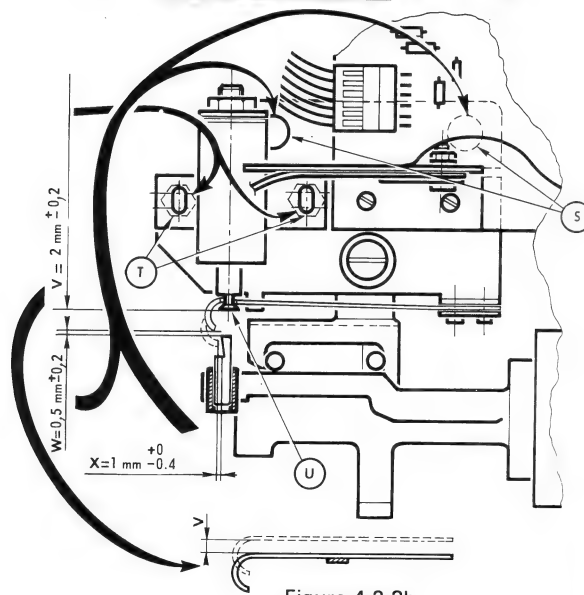

Figure 4.2.3b
- Adjust the assembly by screws S to obtain air gaps W and X to conform figure 4.2.3b.